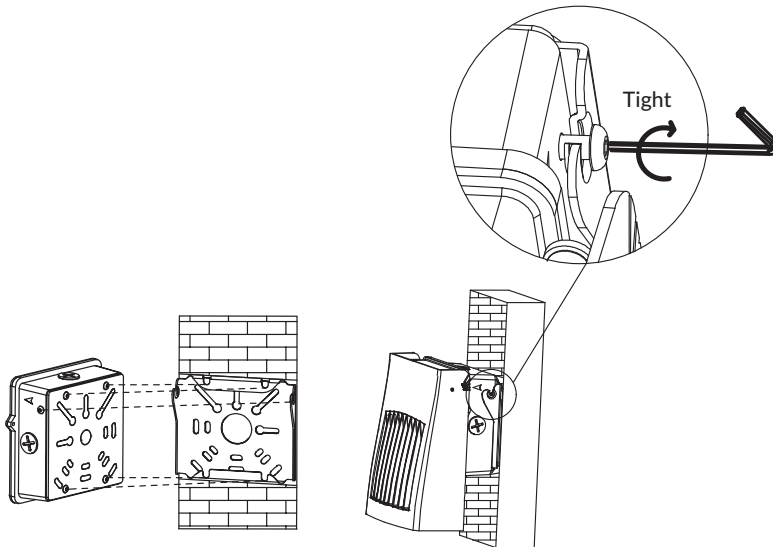

Figure 8
- Pull up and detach the fixture. Position it to the mounting plate using all the back top, bottom and side hanging screws into the appropriate hooks of the mounting plate (top to top, bottom to bottom, side to side). Secure the fixture by tightening the two side retaining screws. (Figure 8).